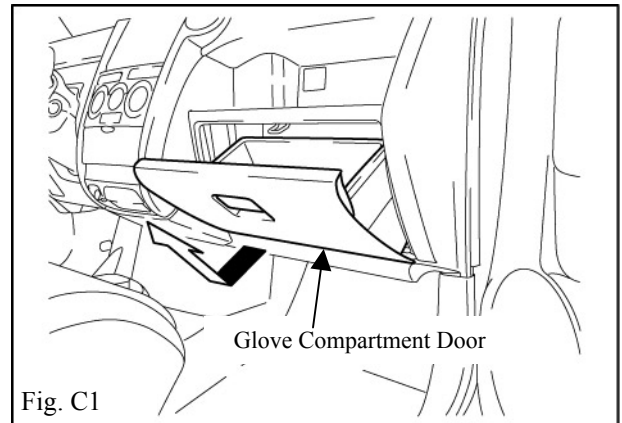

Fig. C1
- ➔ 1. Remove the glove compartment door. (Fig. C1)